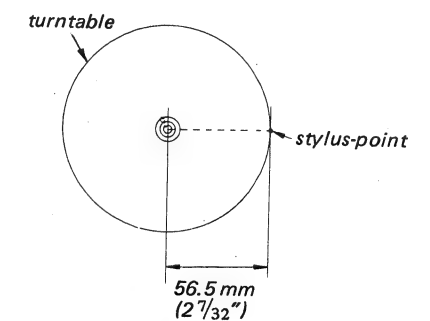

Fig. 3-5
4. Set the position of the stylus as shown in Fig. 3-5 so that the VOM reads 4.4 V dc.